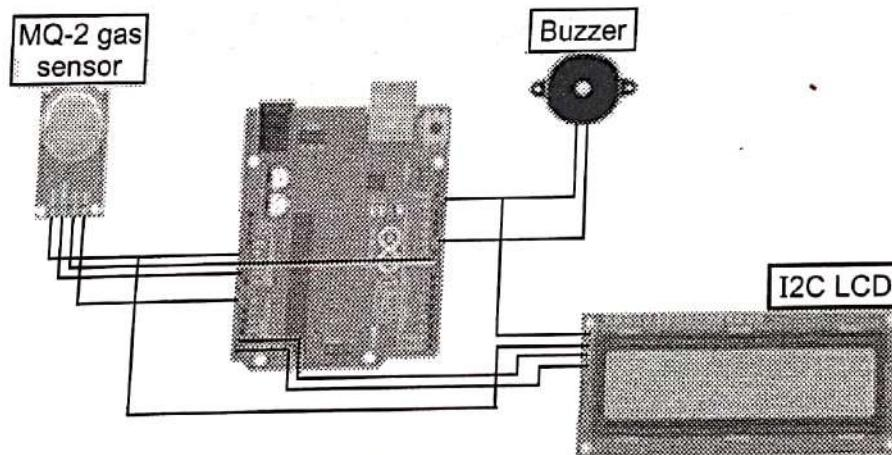

Fig. 2.3.2 : MQ-02 gas sensor interfacing with Arduino
- Fig. 2.3.2 shows MQ-02 gas sensor interfacing with Arduino.